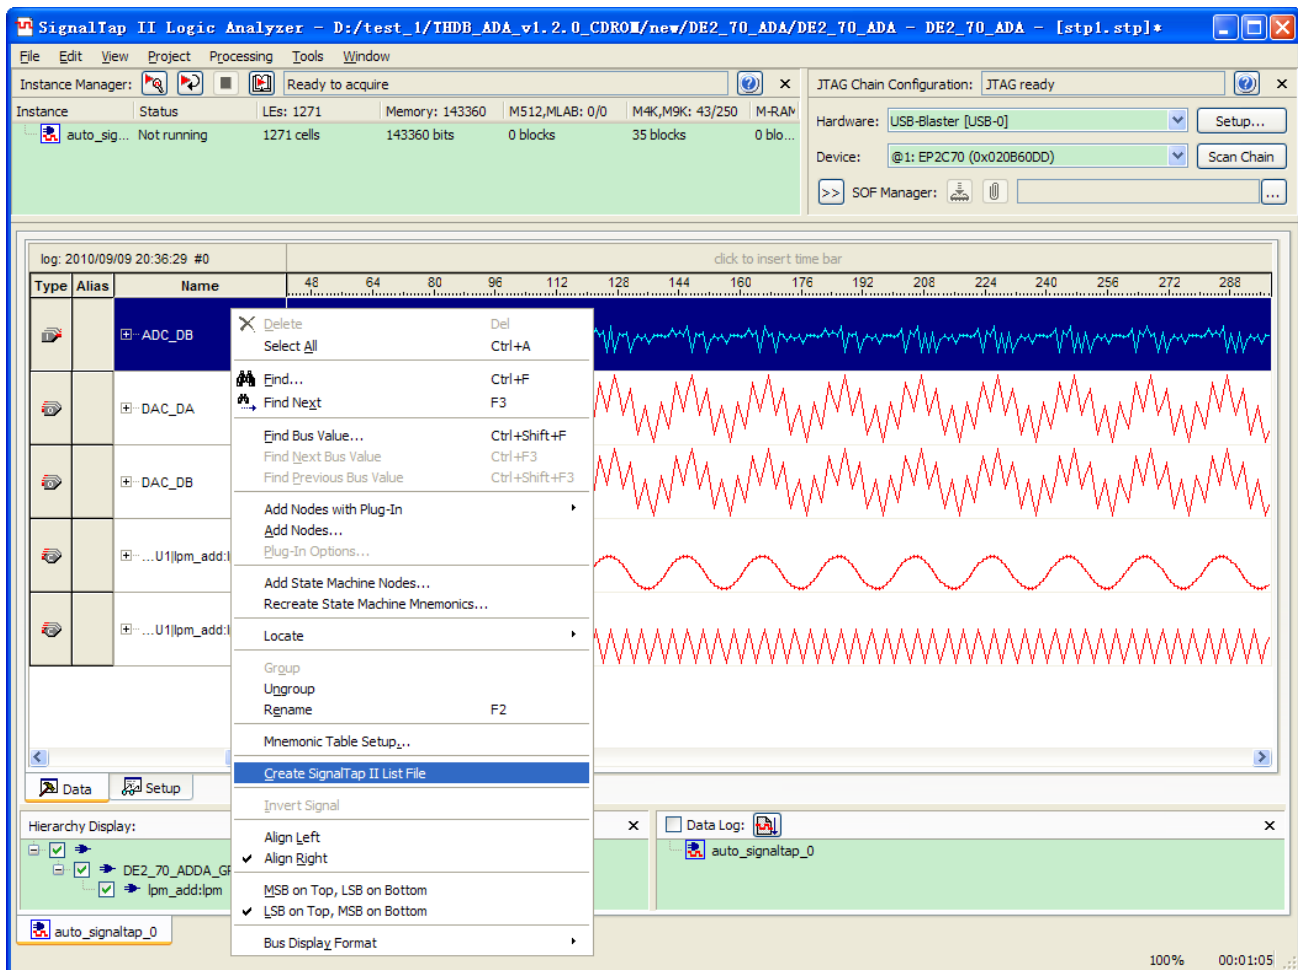

Figure 4-5 Using Quartus 10.0 sp1 SignalTap II to generate the SignalTap II List File
3. Choose File -> Create/Update -> Create SignalTap II List File and the Quartus II will generate the file stp1_auto_sigtap_0.txt in the project directory. **If your Quartus II version is above 9.1, Please click ADC_DB and right click to select "Create SignalTap II List File" for outputting the List file.** As show on the **Figure 4-5**.